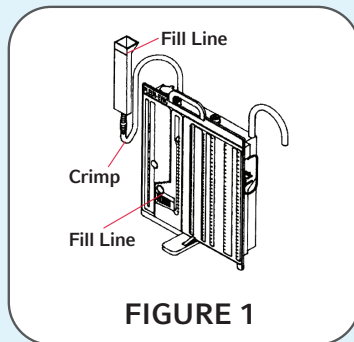

FIGURE 1
1. Fill water seal chamber to the "Fill Line" on the water seal pressure scale to establish the one-way seal for patient protections. This is the 2 cm water level which will require approximately 70 mL of sterile water or saline (FIGURE 1). A funnel is provided to facilitate filling. Attach the funnel to the connector on the suction tube.